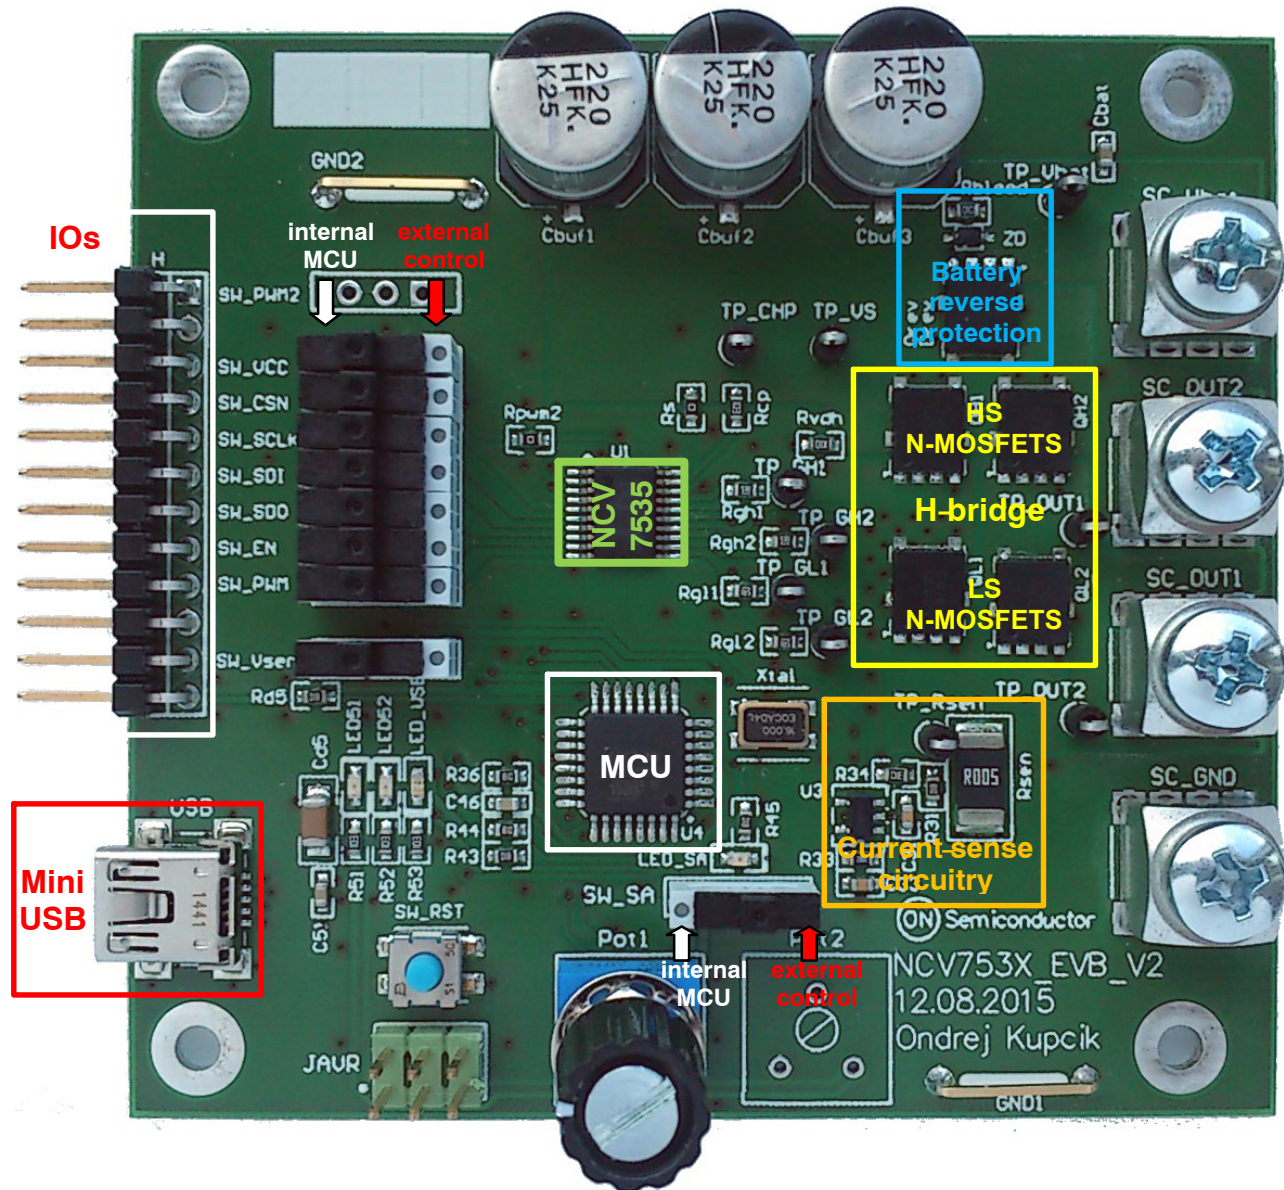

Figure 3. NCV7535 Evaluation Board Picture, Top Side
- ♦ All the slide switches (incl. SW_SA) have to be set to the position as shown in Figure 3.
- ♦ All the switches (incl. SW_SA) have to be set to the position as shown in Figure 3.
1. Move slide switches “SW_xx” to the left position (see Figure 3.)